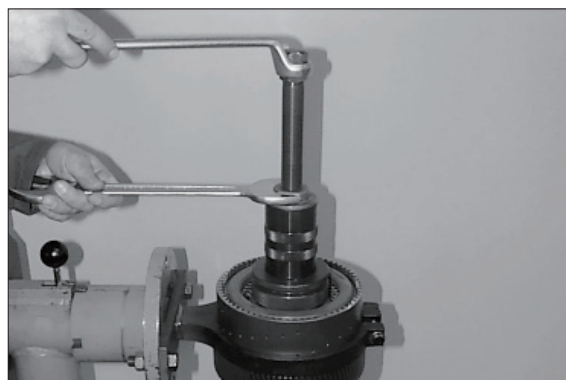

Figure 100
(13) Pull off the taper roller bearing from the disc carrier (figure 100).